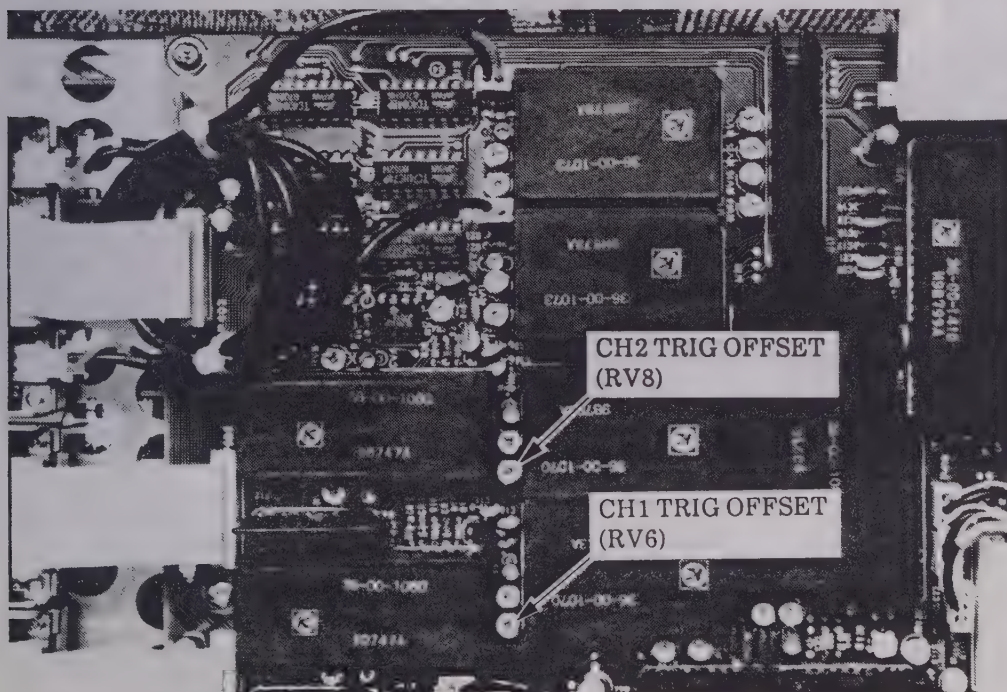

Fig. 4-25 Adjustment positions of CH1 and CH2 TRIG OFFSET (RV6 and RV8)
- (1) Perform initial setting of the oscilloscope in accordance with Table 4-3.
- (2) Set the input coupling of CH1 to "AC", and the input deflection factor to 0.1V.
- (3) Set "AUTO TRIG" to OFF.
- (4) Connect the output of a signal generator which has been set to about 50kHz, to the input terminal of CH1, and adjust the signal output so that the amplitude of the waveform on the CRT is 8 DIV.
- (5) Set "TIME / DIV" to  $5\mu\text{s} / \text{DIV}$ .
- (6) Adjust "TIME / DIV" so that the trigger point moves to the center of the amplitude of the waveform.
- (7) Confirm that when "TRIG COUPLING" is switched from "AC" to "DC", or vice-versa, the trigger point does not move at the center of the amplitude of the waveform. If it does, adjust CH1 TRIG OFFSET (RV6) on board A4 shown in Fig. 4-25.
- (1) Set "VERT MODE" to "CH2", and set the input deflection factor to 0.1V.
- (2) Set the input coupling of CH2 to "AC", and connect the signal output to CH2.
- (3) Set "TRIG COUPLING" to "AC", and adjust "TRIG LEVEL" so that the trigger point moves to the center of the amplitude waveform.
- (4) Confirm that when "TRIG COUPLING" is switched from "AC" to "DC", or vice-versa, the trigger point does not move at the center of the amplitude of the waveform. If it does, adjust CH2 TRIG OFFSET (RV8) on board A4 shown in Fig. 4-25.